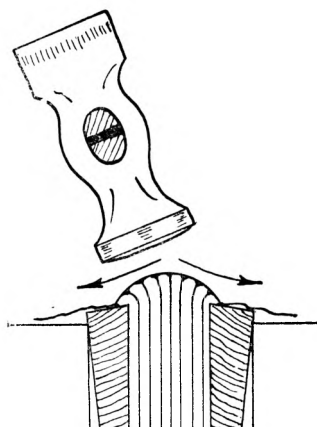

Fig. 61
42. The back of the book is now hammered lightly so as to fan out the sections evenly on each side, fig. 61. Start at the centre of the back and work towards the edges using glancing blows of the hammer as indicated by the arrows in
fig. 61. Gradually work the sections over on to each side as evenly as possible. The sides should finally be beaten down on to the backing board with the outside edge of the hammer as indicated in
the glancing blows indicated in fig. 61.